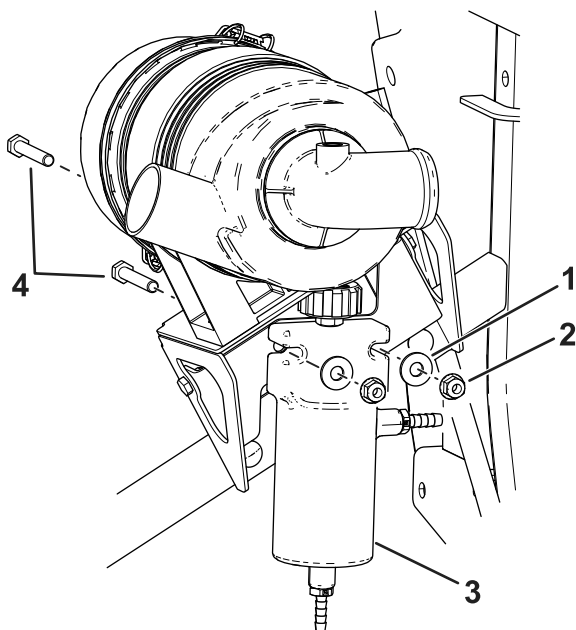

Figure 6
2. Mount the accumulator to the bracket with 2 screws (5/16 x 2 inch), 2 washers, and 2 nuts (5/16 inch); refer to Figure 6.